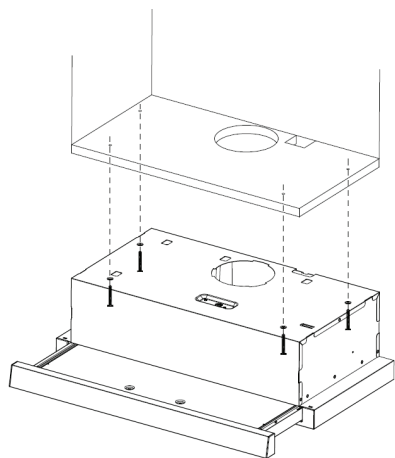
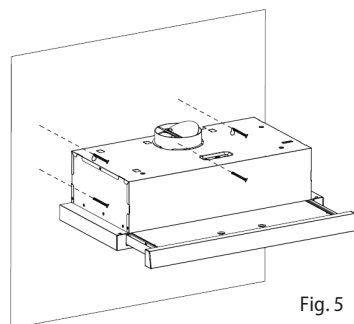

Fig. 4
Fig. 5
4. Drill the holes and attach the hood to the top cabinet according to Fig. 4, or to the wall according to Fig. 5.